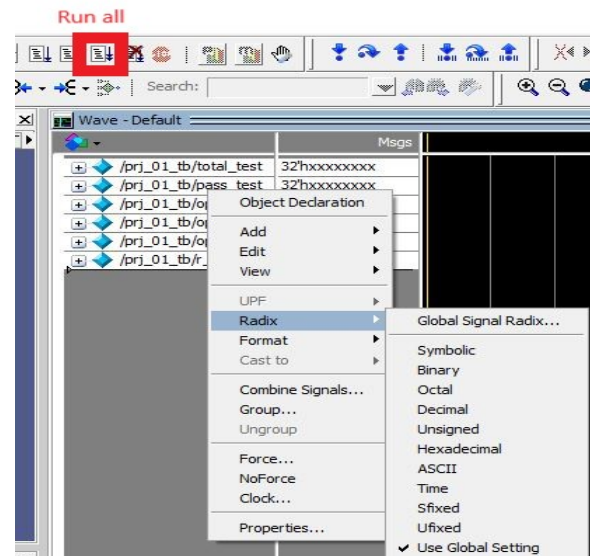

Figure 2.10 Waveform Window
- Click "Run All" as in Figure 2.10
- Select every file on "Wave - Default" window and right click it, then go to "Radix" and click "Unsigned" as in Figure 2.10, since the value is in Hex in default